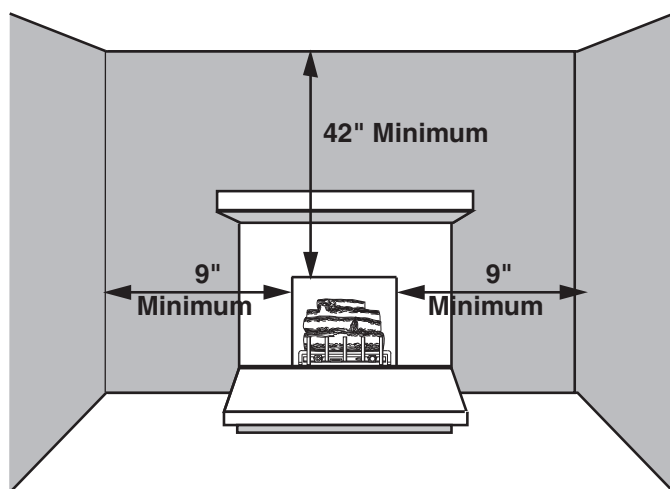

Figure 6. Sidewall and Ceiling Clearances
Ensure that minimum clearances shown in Figures 6, 7 and 8 are maintained. Left and right clearances are determined when facing the front of the firebox.
**Sidewall Clearances** — The clearance from the inside of the appliance to any combustible adjacent wall should not be less than 9" for the VFF32 and VFF36. Figure 6
**Ceiling Clearance** — The ceiling must be at least 42" from the top of the firebox opening. Figure 6
**WARNING:** The dimensions shown in Figures 6, 7, and 8 are minimum clearances to maintain in installing this heater. Left and right clearances are determined when facing the front of the heater. Follow these instructions carefully to ensure safe installation. Failure to follow instructions exactly can create a fire hazard.